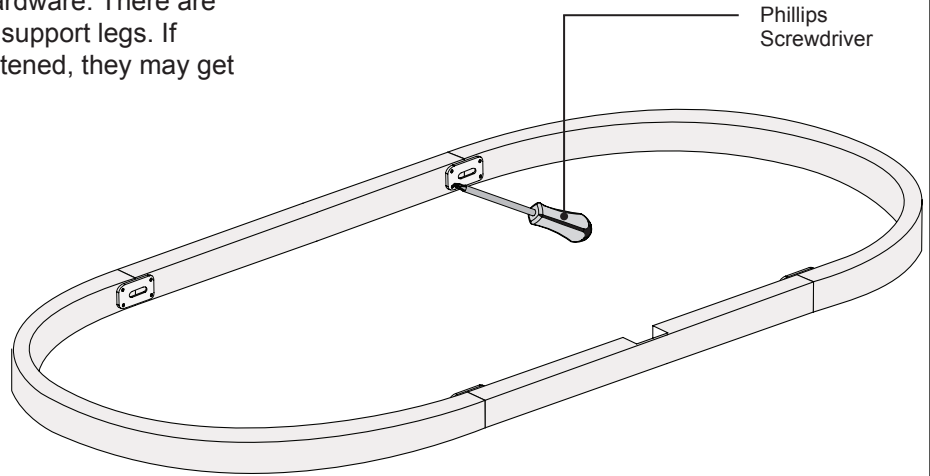

Figure 14. Wood Frame Assembly
④ Once all four (4) metal brackets have been attached, use a Phillips head screwdriver to tighten all of the mounting hardware (Figure 14).